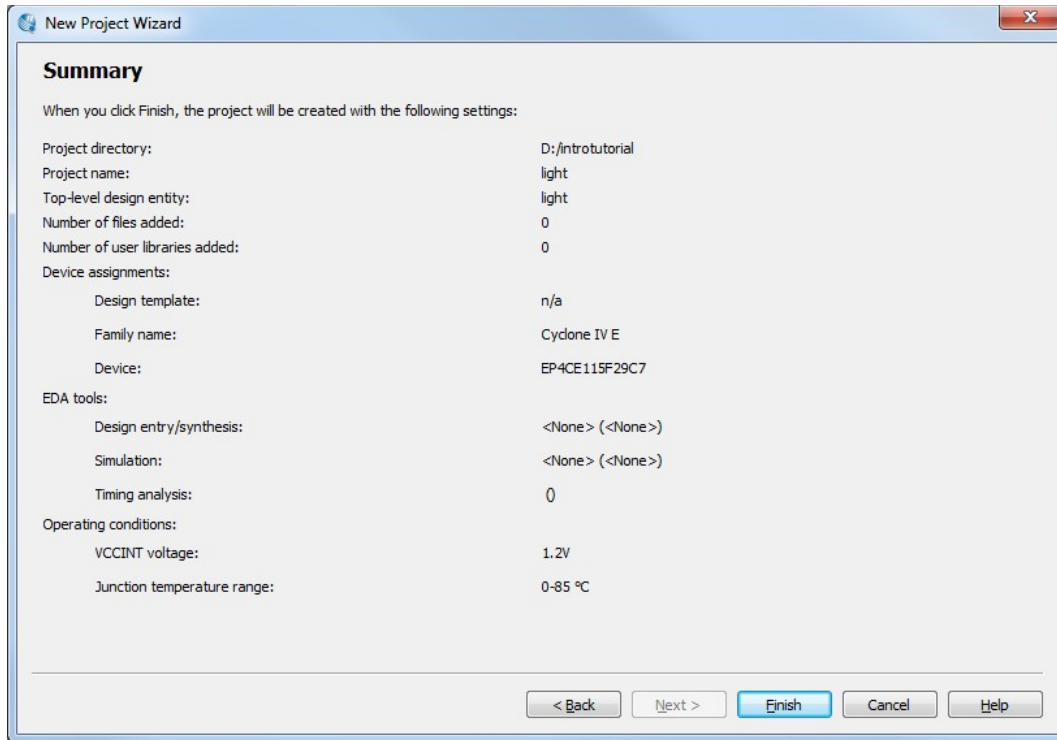
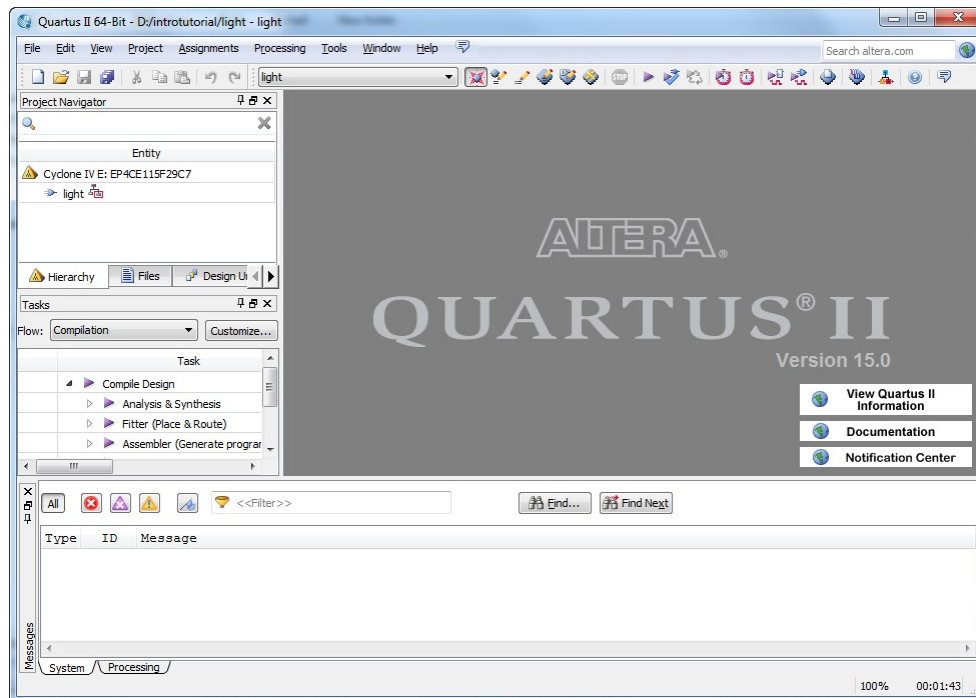

Figure 10. Summary of project settings.
Figure 11. The Quartus II display for a created project.
8. A summary of the chosen settings appears in the screen shown in Figure 10. Press **Finish**, which returns to the main Quartus II window, but with *light* specified as the new project, in the display title bar, as indicated in Figure 11.